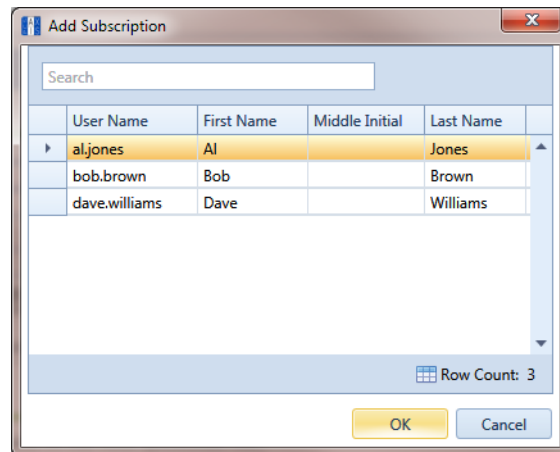

Figure 16-5. Add Subscription
- 2 Click  **Add** to open the *Add Subscription* dialog box (Figure 16-5, page 641).